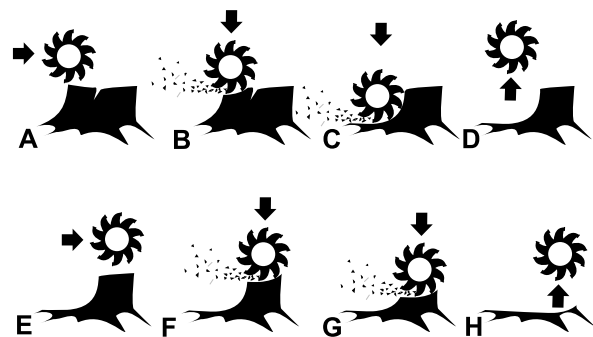

Figure 9
5. Swing the cutting wheel to 1 side (Figure 8), then lower it approximately 1 to 2.5 cm (1/2 to 1 inch) into the front-top corner of the stump. Swing the cutting wheel back and forth, lowering the cutting wheel approximately 1 to 2.5 cm (1/2 to 1 inch) before each sweep, until you have removed the front portion of the stump to ground level (A through D in Figure 9).
7. Repeat steps 5 and 6 until you have completely removed the stump (E through H in Figure 9).